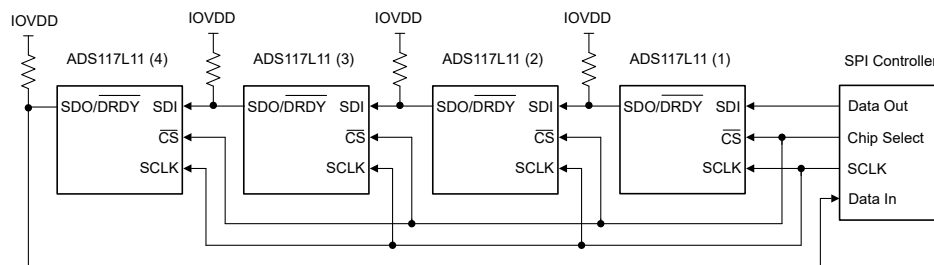

**Figure 8-36. Daisy-Chain Connection**
Figure 8-36 illustrates four devices connected in a daisy-chain configuration. The SDI of ADS117L11 (1) connects to the host SPI data out, and SDO/DRDY of ADS117L11 (4) connects to the host SPI data input. The shift operation is simultaneous for all devices in the chain. After each ADC shifts out the conversion data, the data of SDI appears on SDO/DRDY to drive the SDI of the next device in the chain. The shift operation continues until the last device in the chain is reached. The SPI frame ends when  $\overline{\text{CS}}$  is taken high, at which time the data shifted into each device is interpreted. The SDO/DRDY pin must be programmed to data output-only mode.
Figure 8-38 shows the detailed input data sequence for the daisy-chain write register operation of Figure 8-36. 32-bit frames for each ADC are shown (16 bits of data, with the STATUS and CRC bytes enabled). Command operations can be different for each ADC. The read register operation requires a second frame operation to read out the register data.
Figure 8-39 illustrates the clock sequence to read conversion data from the device connection in Figure 8-36. This example illustrates a 24-bit output frame (16-bits of data, with the CRC byte enabled). The output data of ADC (4) is first in the sequence, followed by the data of ADC (3), and so on. The total number of clocks required to shift out the data is given by the number of bits per frame  $\times$  the number of devices in the chain. In this example, 24-bit output frames  $\times$  four devices result in 96 total clocks.